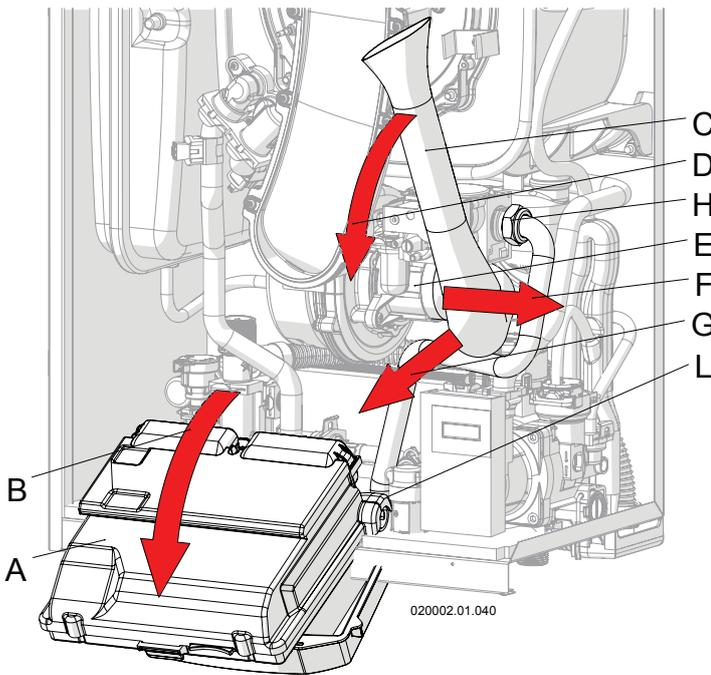

Figure 6-2 – Removing the air manifold
6. - Remove the air manifold, making sure to rotate it outwards and then slide it out of the fan inlet (see figure 6-2, detail “C”);
7. - Remove the gas inlet pipe using the two fittings (see figure 6-2, details “H” and “L”);
12. - Refit the gas supply pipe via the two fittings (see figure 6-2, details “H” and “L”);
13. - Refit the air manifold (see figure 6-2, detail “C”);